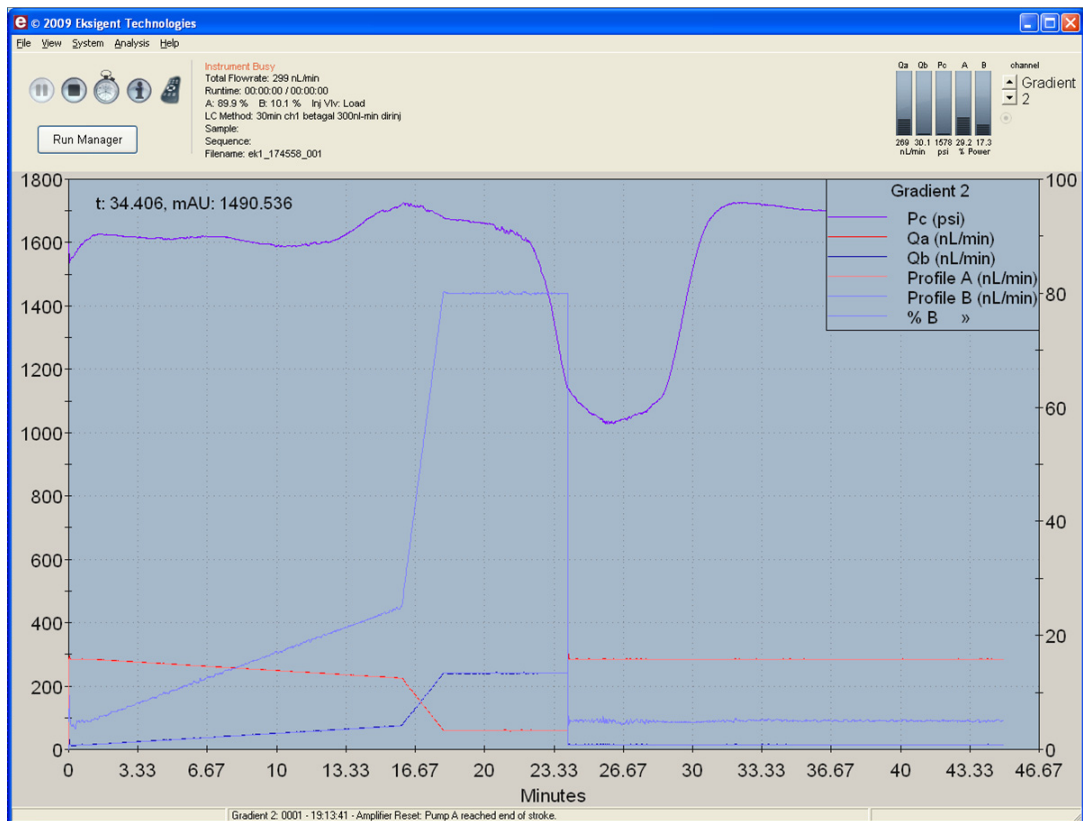

Figure 3-30 Good pressure profile for a direct injection NanoLC Ultra system run
- **Figure 3-30** shows a minimal pressure change upon injection and a 30% pressure decrease during the high organic flush.